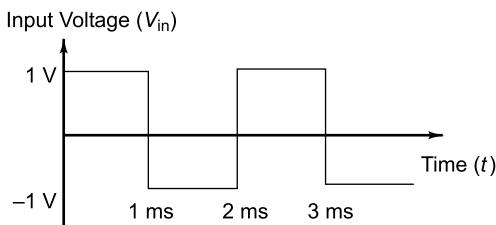

Fig. 5.93
31. When a square wave input voltage as shown in Fig. 5.93 is applied to the differentiation circuit, what will be the output voltage waveform?. Assume missing parameters.